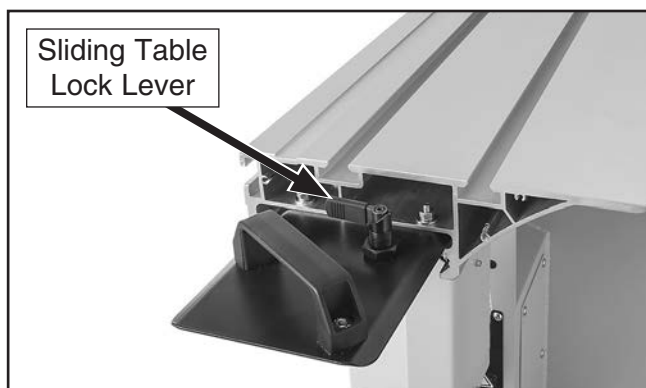

Figure 38. Location of sliding table lock lever.
31. Close blade cover. Center sliding table over cabinet body and lock in place with sliding table lock lever (see **Figure 38**).